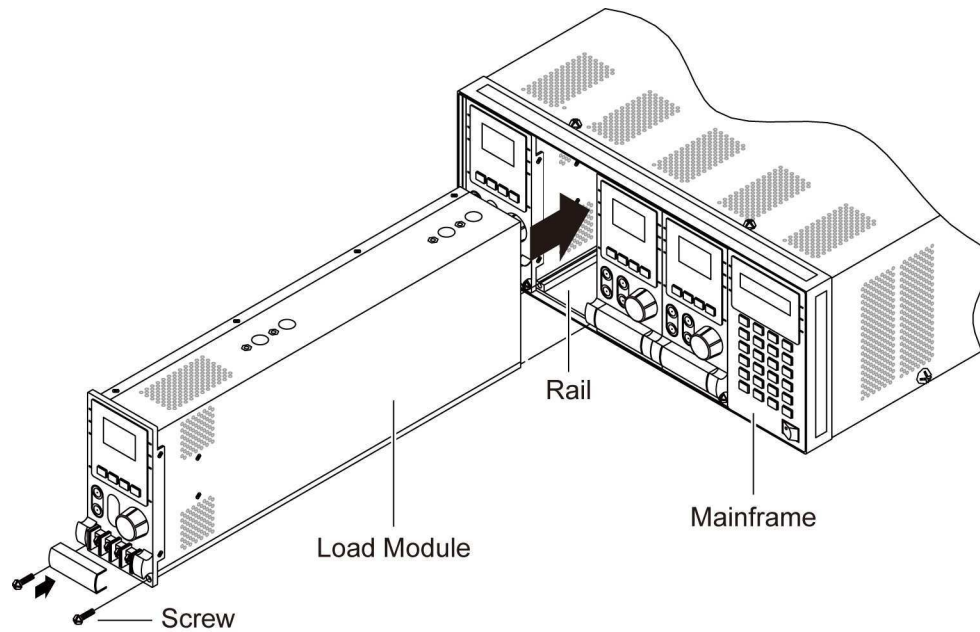

Figure 2-1 Installing Modules in the Electronic Load
3. Start installing the modules in the slot (see Figure 2-1).
5. Lock the module in place by a screwdriver (see Figure 2-1).